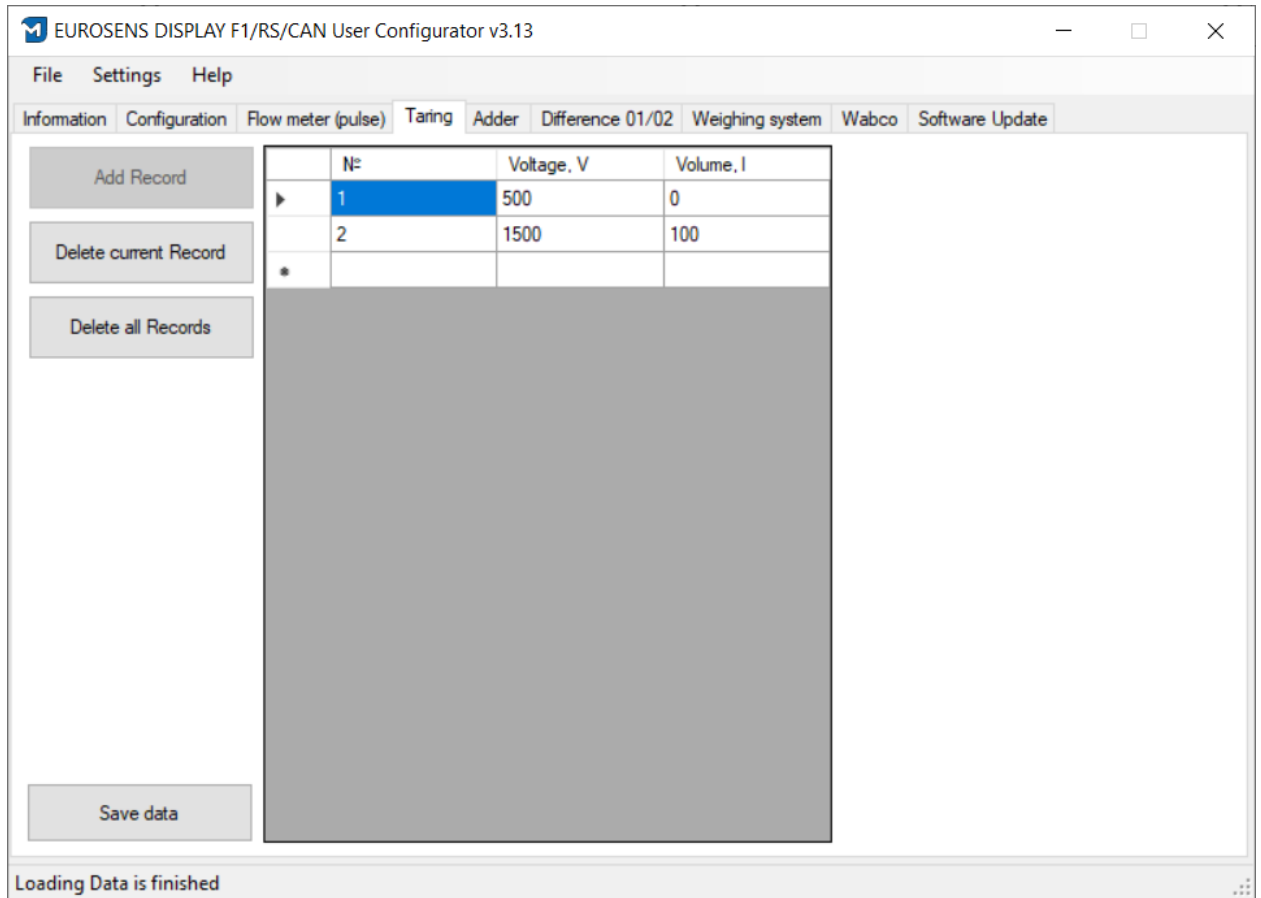

Fig. 4.21. Calibration table, mode “Level sensor (analog)”
- 6) On the basis of the received data fill in the calibration table (fig. 4.21).